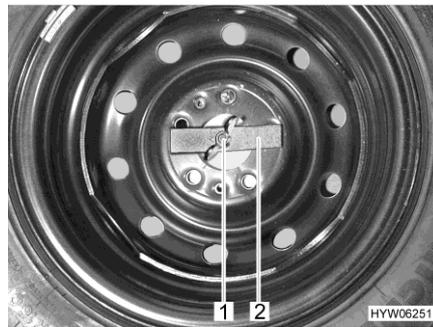

Fig. 229 Spare wheel in the rear storage space
- Loosen the wing nut (Fig. 229,1) and unscrew it.
- Remove the pad (Fig. 229,2).